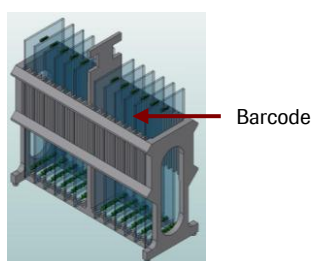

Figure 11: Insert Slides with the Barcode at the Top into the Slide Rack
9. If washing multiple slides, transfer the slide with the barcode at the top into a slide rack (Figure 11) in the wash tank that contains room temperature Wash I. If washing one slide, transfer the slide into a slide container that contains room temperature Wash I. Agitate vigorously for 10 - 15 seconds.